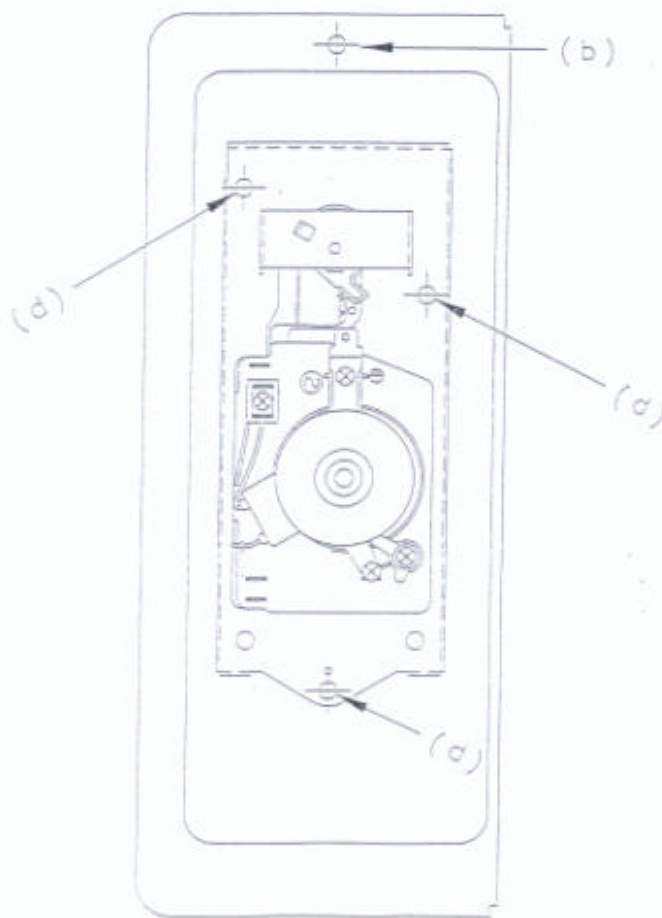

Fig. 9.2
- b) Remove 1 screw holding the oven unit. (Fig. 9.2)
- d) Remove the timer by removing the 3 screws. (Fig. 9.2)